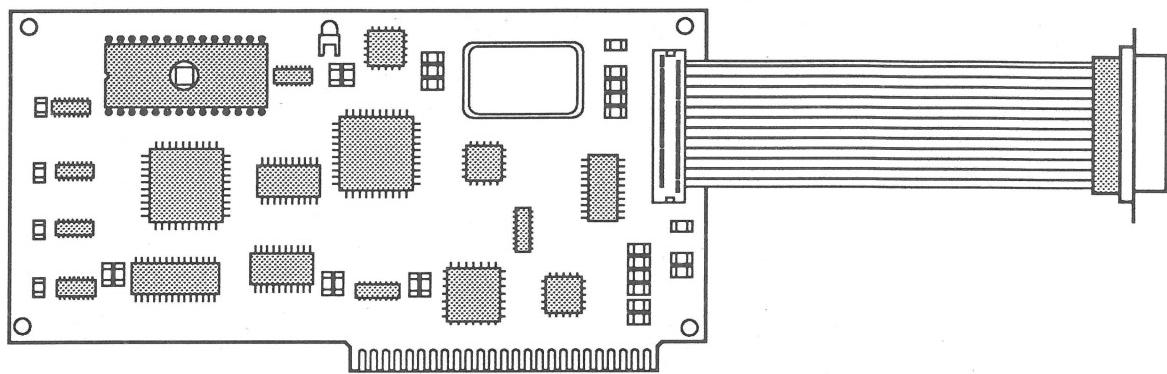

Figure 10
- IPL.13 Apple II 3.5 Disk Controller Card (Figure 10)
APPLE II 3.5 DISK CONTROLLER CARD (Figure 10)